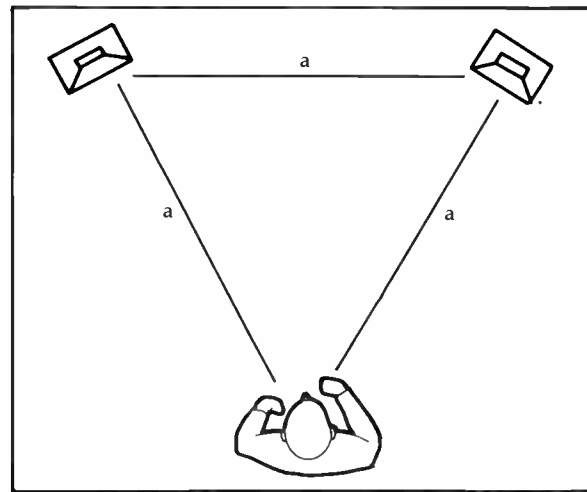

FIGURE 8.4 Speaker-to-listener relationship.
Where the operator is located in relation to the speakers also plays a role in how they sound, especially with stereo programming. Ideally, the operator is located directly between the two speakers and far enough back from them so that an equilateral triangle is formed if a line is drawn from speaker to speaker and from operator to speaker (see Figure 8.4). If the layout of the production room positions the operator closer to one speaker than the other, the source of all the sound appears to shift toward that one speaker. As a production person you may not have any control over the speaker placement, but it is important that you realize the effects of speaker placement on the sound you hear.
- 5a. No. This would put the listener directly in front of one of the speakers and all of the sound would appear to be coming out of that one speaker. Reread 8.6, check Figure 8.4, and select the other response.